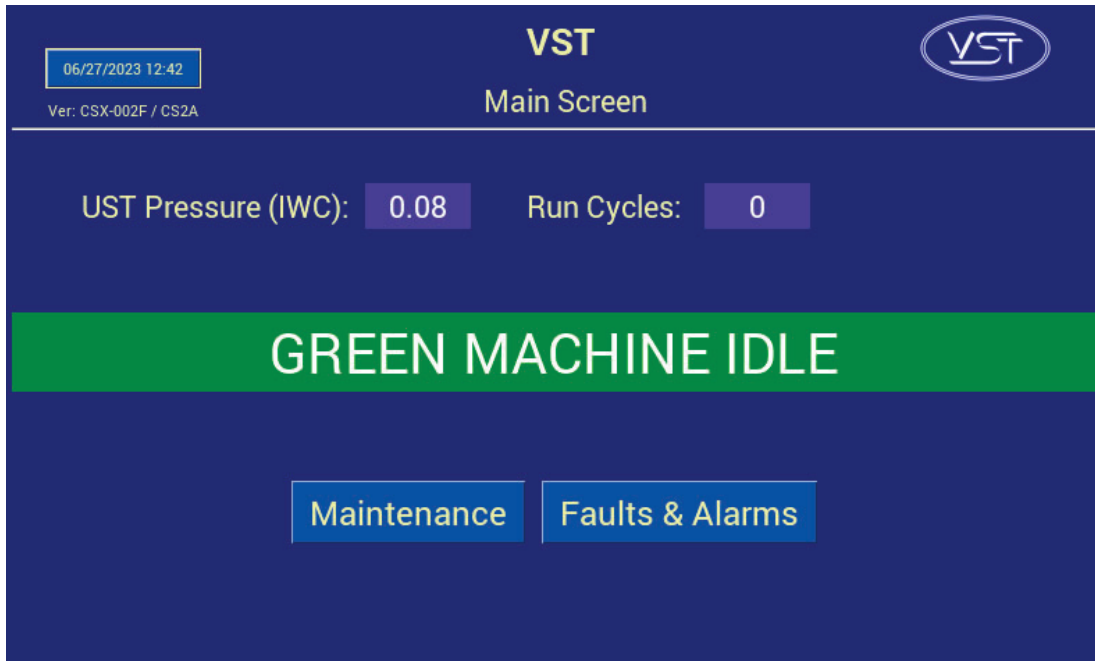

Figure 7-1: VST PLC Main Screen w/no Alarms
**See Figure 7-1.**
4. At the VST Control Panel PLC Main Screen, make sure the Pressure reading is 0.0 +/- 0.10 IWC. **See Figure 7-1.**